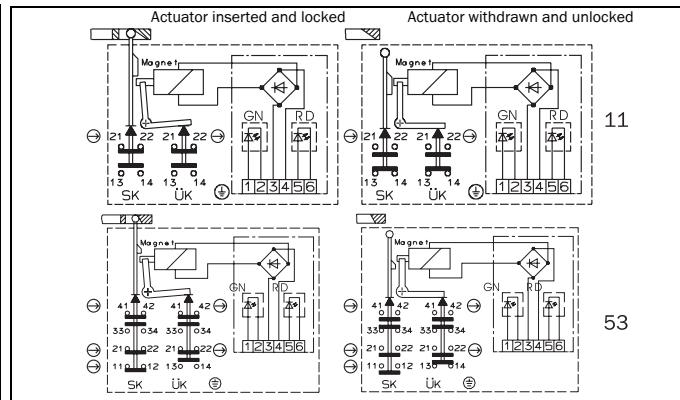

Fig. 2: Switching elements and switching functions
- Contact configuration see Fig. 2.